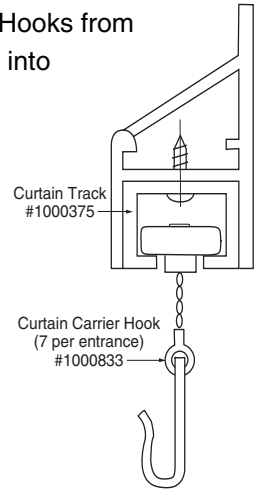

Fig. 7a: Headrail Installation Hardware.
- C. For corner and alcove layouts, cut return headrail. Measure from the inside edge of front headrail to the back wall (See Fig. 7a and 7b).
- G. Connect the return headrail to front headrail with headrail bracket and four (4) #1002499 screws.